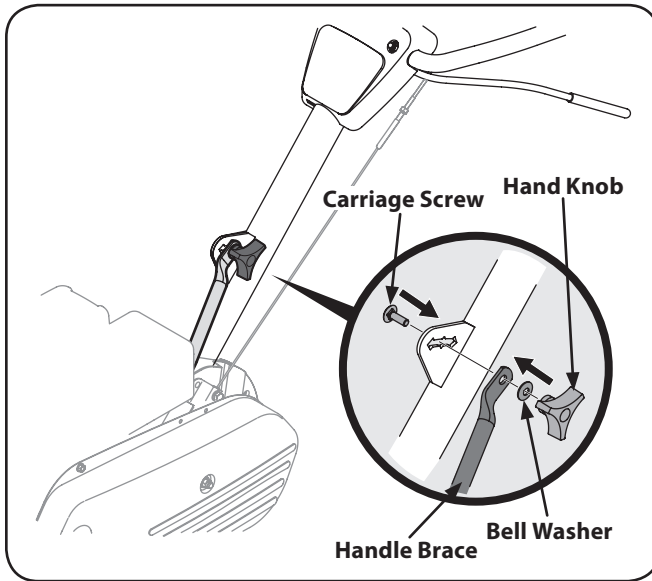

Figure 1-4
6. Tighten the bolt securely after securing the handle brace as seen in Figure 1-4.
8. Insert the carriage screw through the bracket on the handle, bell washer, handle brace and into the hand knob. See Figure 1-4.
9. Select one of the three handle height positions (three notches in the welded handle bracket) and tighten the hand knob to secure the handle in the desired position. See Figure 1-4. Return to the lower handle and tighten the hex bolt securely.